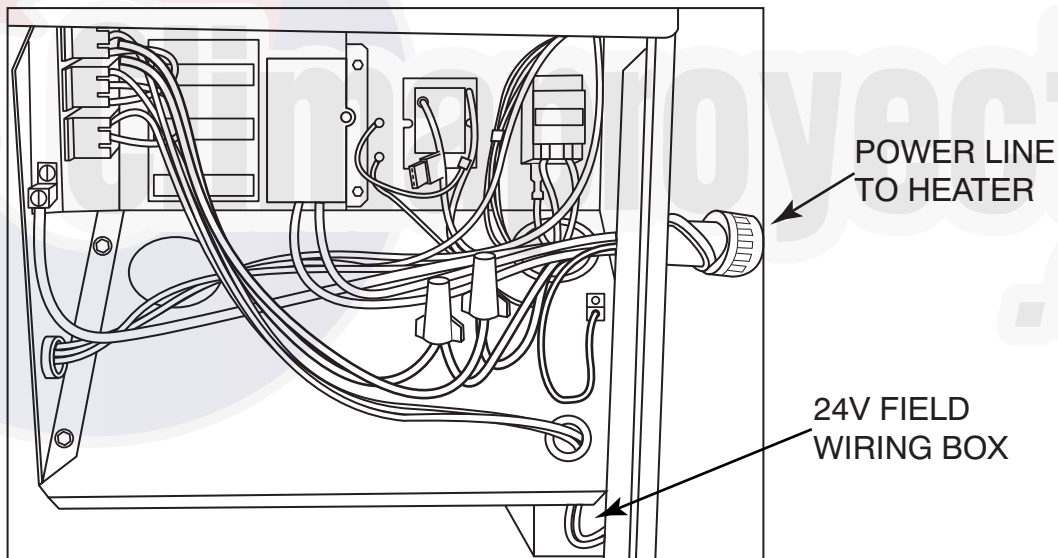
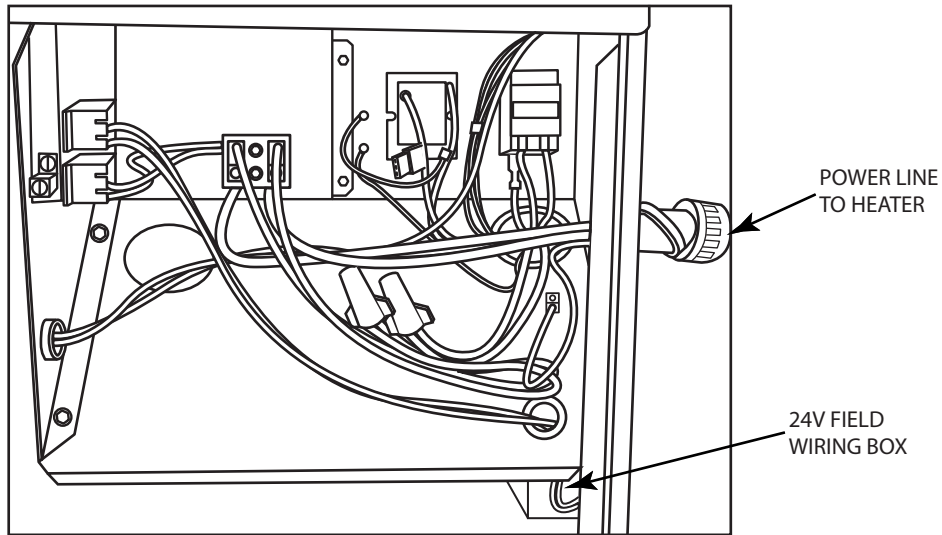

Fig. 10 – Single Point Connections For Heaters With Circuit Breakers
Fig. 11 – Single Point Connections For Heaters Without Circuit Breakers
3. Connect low voltage wires as shown in unit schematic diagrams found on the base unit installation instructions. These connections must be made in the 24v barrier section inside the unit panel (See Fig. 10 or Fig. 11).
4. Insert field power line through the Electrical Panel hole (see Fig. 10 or Fig. 11) and connect to electric heater as shown in their respective wiring diagram. Electrical heaters with factory installed circuit breakers must have their field lines connected to the breaker block lugs and electric heater without factory installed circuit breakers must have their field lines connected to the heater leads using wire nuts. Ground electrical equipment in the appropriate locations.